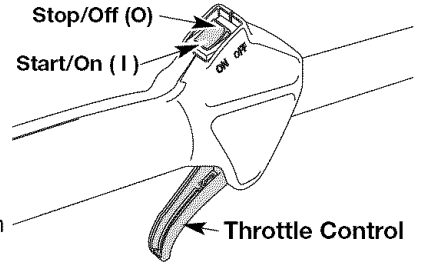

Fig. 2
NOTE: There is no need to turn the unit on. The On/Off Stop Control is in the ON (I) position at all times (Fig. 2).
2. Press and hold On/Off Stop Control in the OFF (O) position until engine comes to a complete stop (Fig. 2).